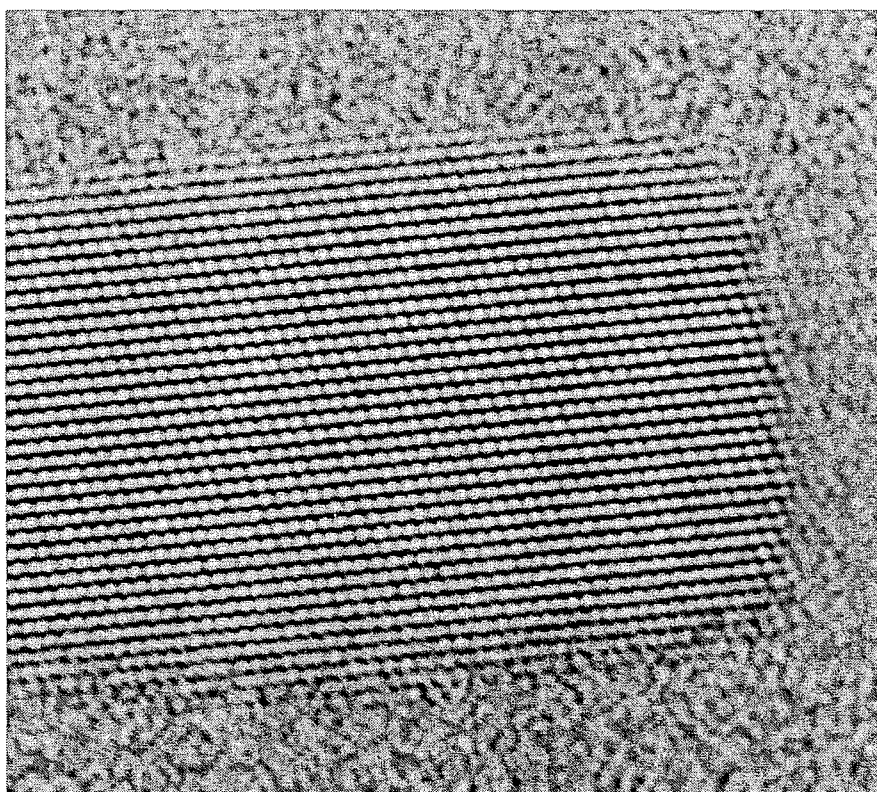

Fig. 2. A high resolution TEM image of an Al thin film. The film is 15 nm in thickness.
- b) Draw the diffraction pattern for the area in the middle of the high TEM resolution image in Fig. 2. Explain how you obtain it. (1p)